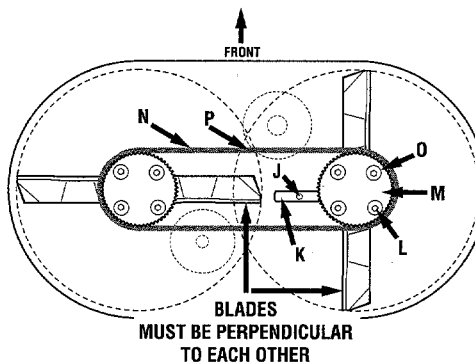

Figure 5-6: Blade Spindle Belt
3. Align sight holes (O, Figure 5-6) in pulley with spindle housing-to-mower deck mounting bolts (L).
4. Loosen screw (J) and rotate arm (K) to the rear.
5. Loosen four mounting bolts (L) securing spindle housing (beneath mower deck) to mower deck.